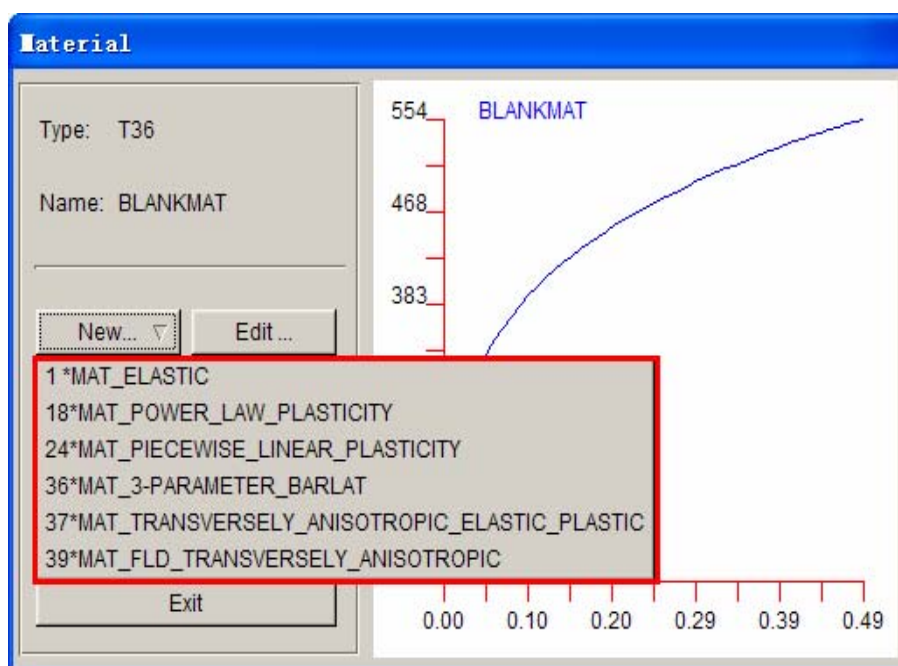

Figure 8.2.25 Select material type
**NEW...:** Allows the user to setup a new material. After clicking this button, the program will display the Type list. The user may select one of the types from the list as shown in Figure 8.2.25. The MATERIAL dialog box as shown in Figure 8.2.26 is displayed.